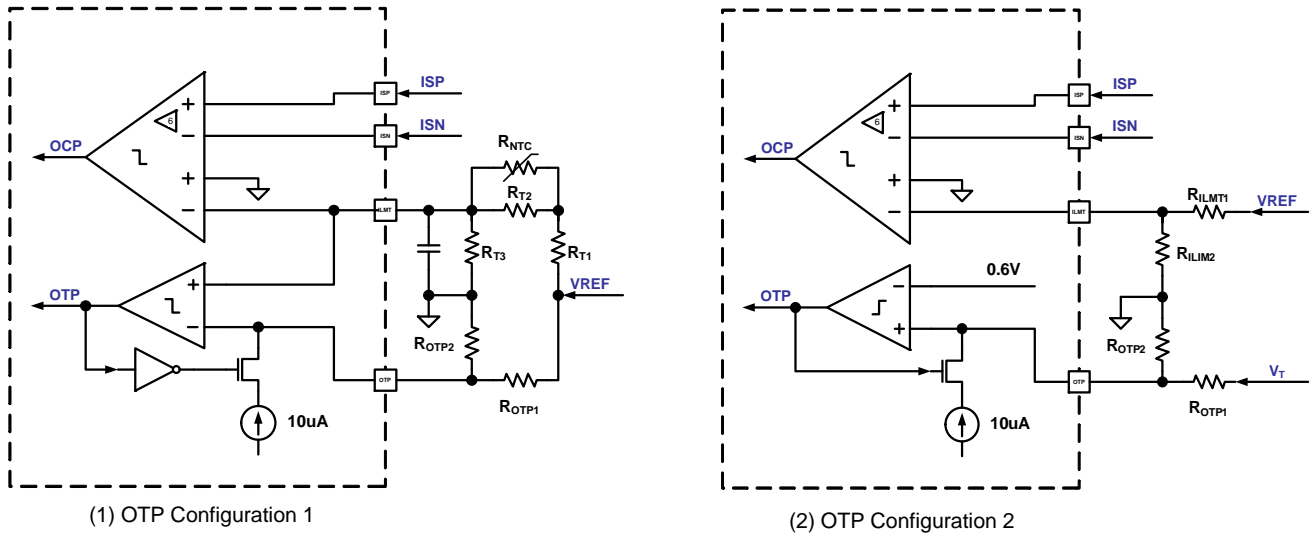

Figure 12. Over-Current Protection and Over-Temperature Protection
The over-current threshold can be externally programmed at the ILIM pin for each channel. As shown in Figure 12 (1), a NTC resistor R_{NTC} can be employed for temperature compensated over current protection. The peak current limit per phase can be calculated by
If no temperature compensation is needed, as shown in Figure 12 (2), the peak current limit per phase can be simply set by
With OTP Configuration 1, as shown in Figure 12 (1), the NTC resistor R_{NTC} senses the hot-spot temperature and changes the voltage at ILMT pin. Both over-temperature threshold and hysteresis are externally programmed at OTP pin by a resistor divider. Once the voltage at ILMT pin is higher than the voltage at OTP pin, OTP trips and the channel is shut down. The channel will have a normal start up after a hiccup interval in condition that the temperature drops below the OTP reset threshold. The OTP assertion threshold V_{OTP} and reset threshold V_{OTP_RST} can be calculated by
With OTP Configuration 2, as shown in Figure 12 (2), the NCP81234 receives an external signal V_T linearly representing temperature and compares to an internal 0.6 V